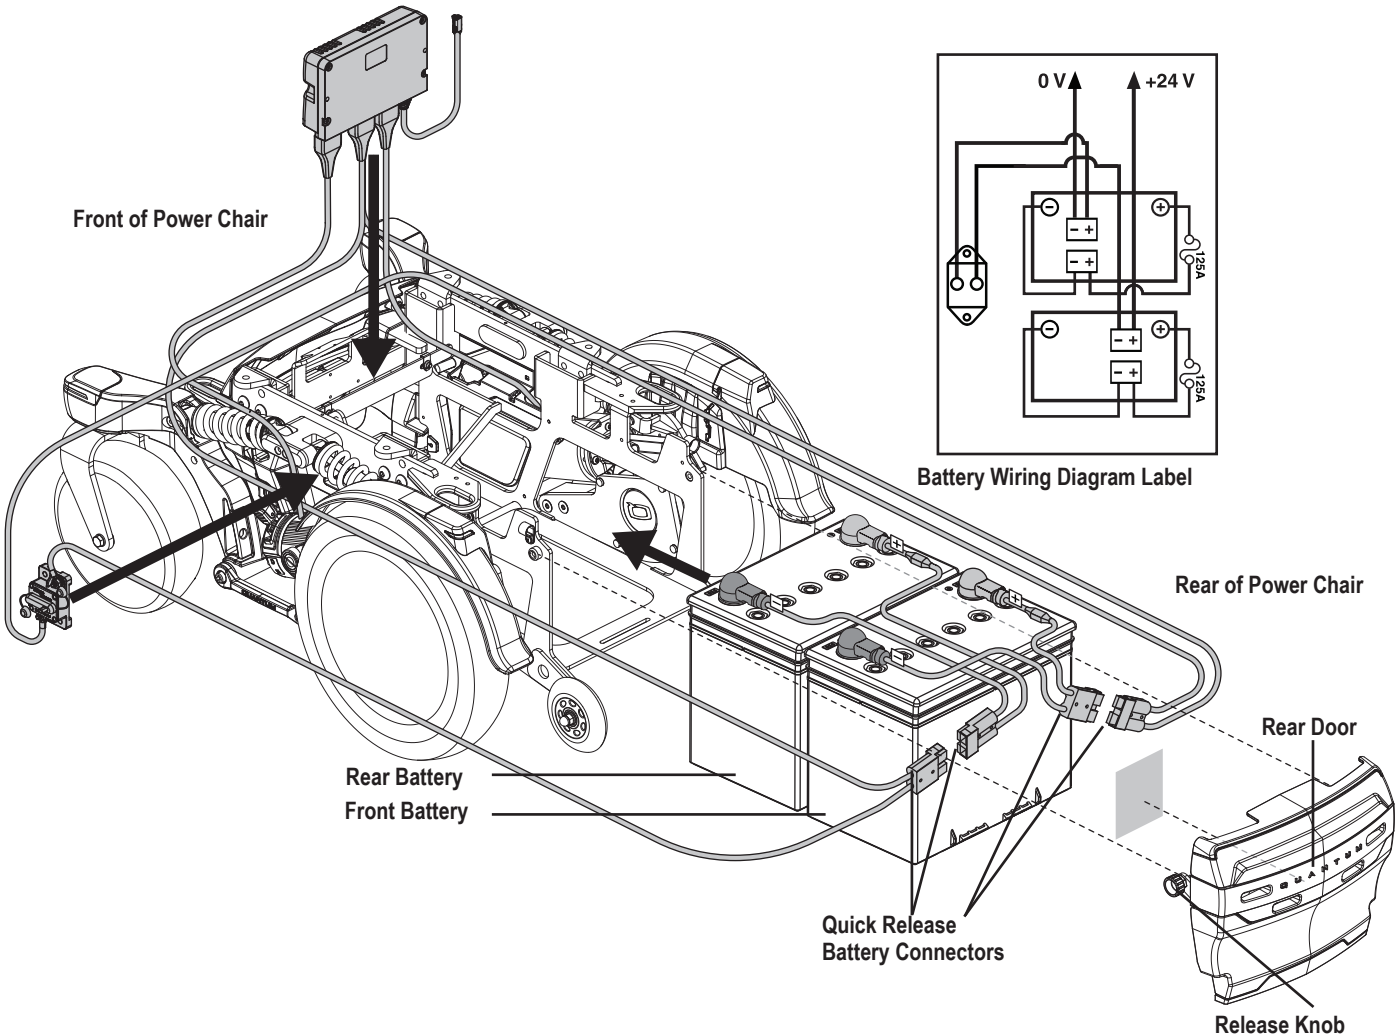

Figure 12. Battery Installation
3. Remove the rear door by unscrewing the two release knobs (**see figure 12**) and lifting the rear door up and away from the power base.
4. Disconnect the quick release battery connectors. **See figure 12.**
7. Connect the battery harness to the new front battery according to the battery wiring diagram. **See figure 12.**
8. Connect the battery harness to the new rear battery according to the battery wiring diagram. **See figure 12.**